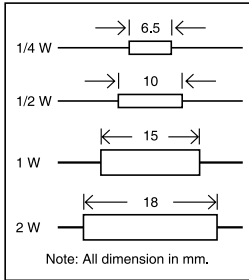

Fig. 37: Carbon resistor size and wattage relationship
**5. Resistor wattage:** The power that a resistor can safely dissipate (without burning) depends on its size. Typical sizes of carbon resistors for 1/4 W, 1/2 W, 1 W and 2 W are 6.5 mm (0.25 inch), 10 mm (0.4 inch), 15 mm (0.6 inch) and 18 mm (0.7 inch) respectively, as shown in Fig. 37.